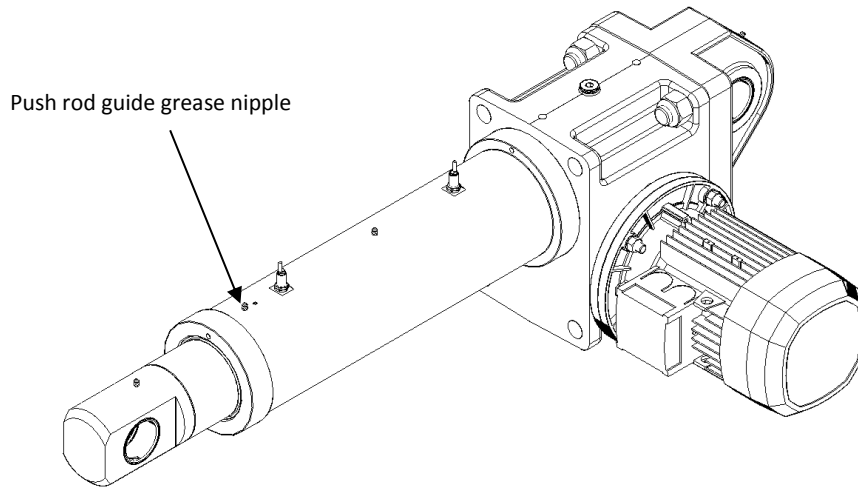

Figure 9.3 – Push rod guide lubrication
- Relube the push rod guide using proper grease nipple, as shown on Fig. 9.3.